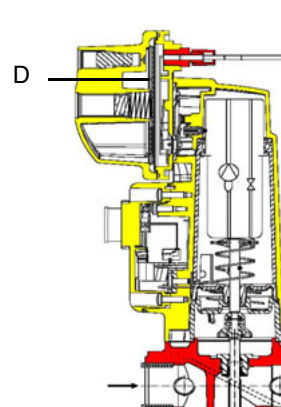

Fig. 10
**⚠ Caution:** the SKP2 diaphragm **D** must be vertical (see Fig. 10).